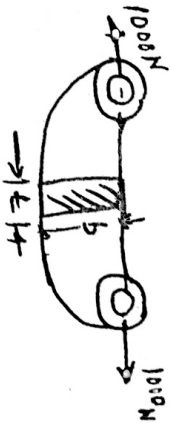

Fig. No. 2.
- A bracket as shown in Fig. No. 2 is fixed to a vertical steel column by means of four standard bolts. Determine the diameter of the fixing bolts. Assume safe working stress of 70 MPa in tension and 50 MPa in shear.